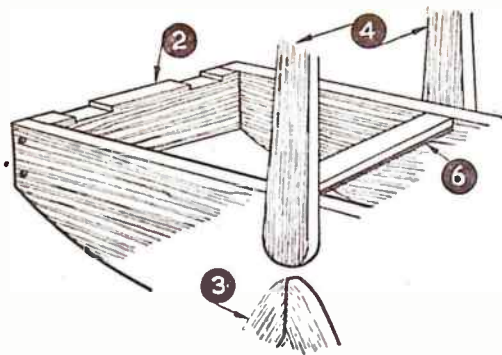

Fig. 1
The first step in assembling is to glue the end pieces (2) between the two side pieces (1) as shown in Fig. 1. For strengthening purposes, drill and countersink two screws from each side. The holes can be filled with plastic wood. It will be noted that the bottom edges of pieces 2 are shaped as shown in the side view on the design sheet, and provision is also made on the top edges for letting in the four  $1\frac{1}{2}$ in. hinges for the lids.
A piece of 1in. by 3/4in. stripwood (piece 6) is now glued and screwed centrally between the top of the sides, as shown in Fig. 1, and the arm pieces (4) for the handle are added the same as for the legs. These will cover the screws needed to fix piece 6, and they in turn are screwed from the inside, two screws for each arm piece. To complete the handle, an 11in. length of 3/4in. round rod is glued into the holes provided in the arm pieces.